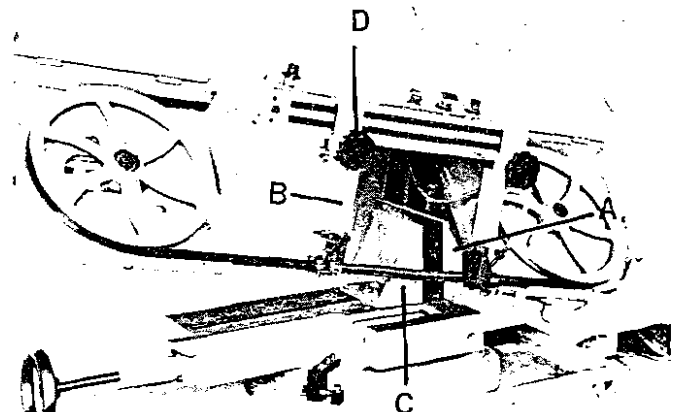

FIG. 6
The blade guides should be set as close to the vise jaws as possible. The right blade guide bracket (A) Fig.6 is set at the factory to clear the right hand vise jaw. The left blade guide bracket (B) can be moved to the left or right depending on the position of the left hand vise jaw (C). To move the left blade guide bracket (B), loosen hand knob (D) position blade guide bracket (B) and tighten hand knob(D).